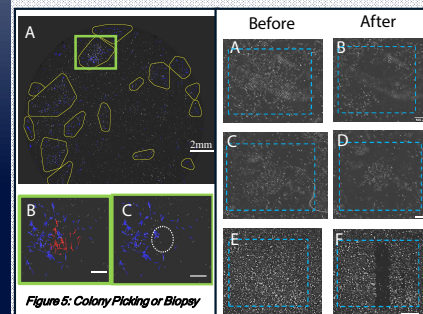

Figure 5: Colony Picking or Biopsy
- Automated processing to biopsy or pick selected cells or remove ("weed") undesired cells (Figure 5 & 6).